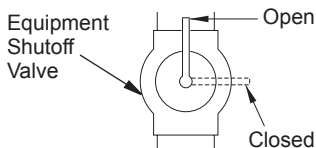

Figure 8- Equipment Shutoff Valve
1. Close equipment shutoff valve (see Figure 8).
1. Open equipment shutoff valve (see Figure 8).